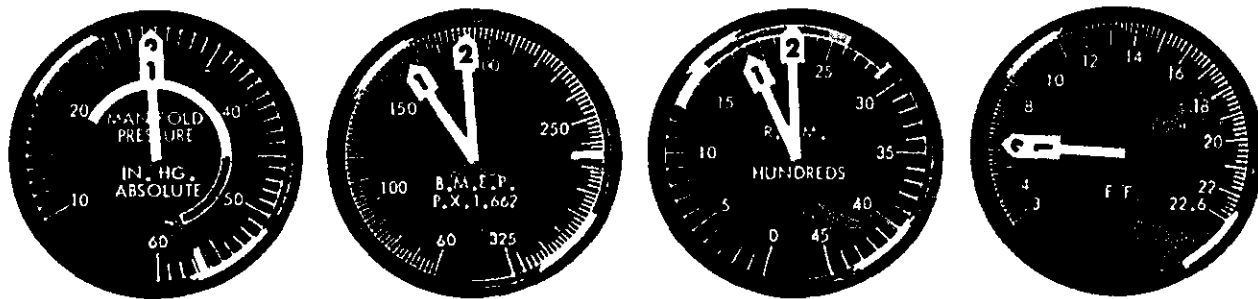

FIGURE 2. Reciprocating engine power check diagram.
To answer test item 7, refer to the Engine Power Check Diagram, Figure 2.